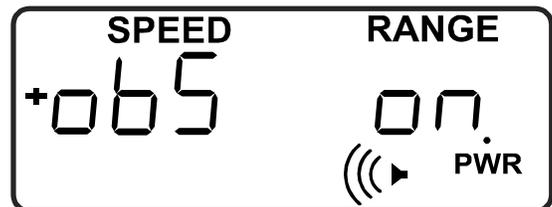

Figure 11
- Auto Obstruction Mode (Figure 11)